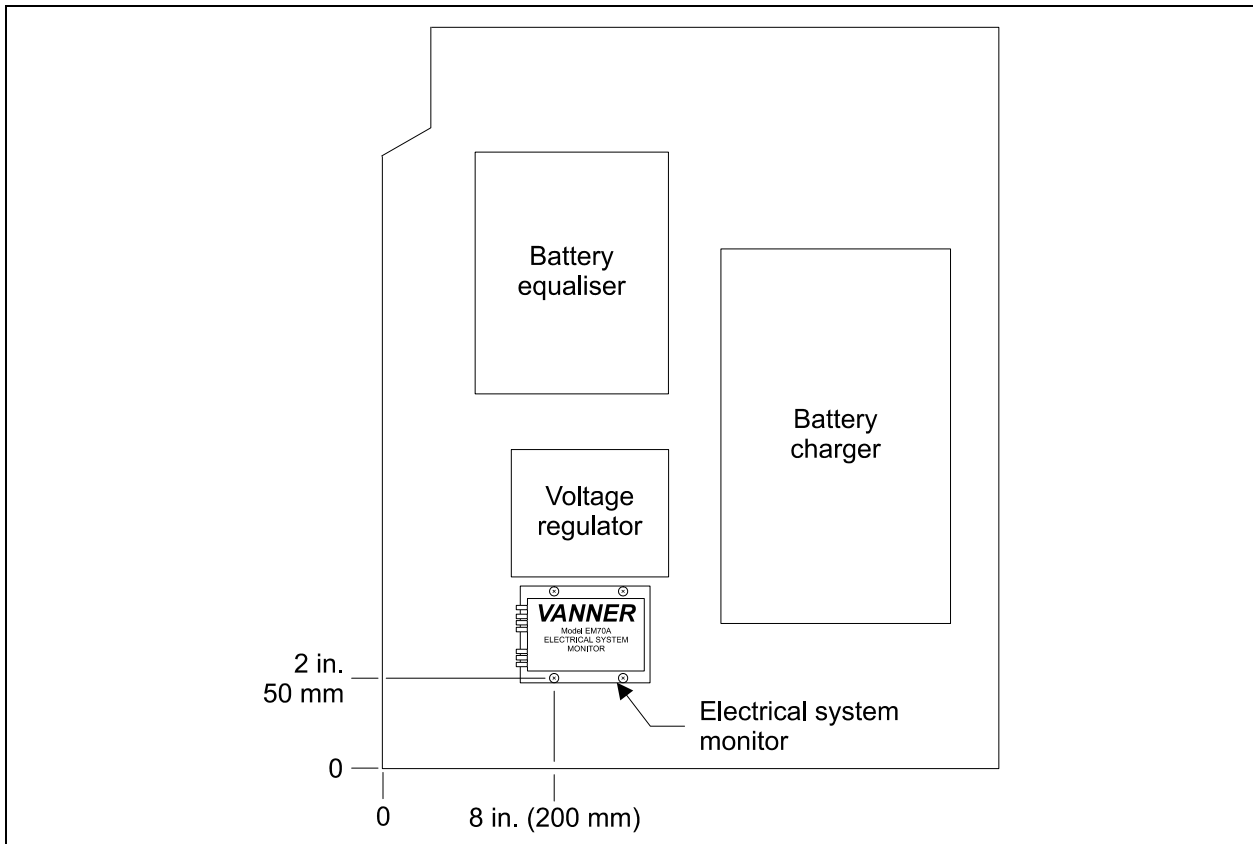

FIGURE 2: RIGHT WALL OF THE MAIN POWER COMPARTMENT
4. Relocate the monitor on the right wall, under the Delco voltage regulator (if equipped) and battery equalizer. See figure 2 for location. Use the monitor as a jig to drill the 1/8 inch screw holes in the wall;